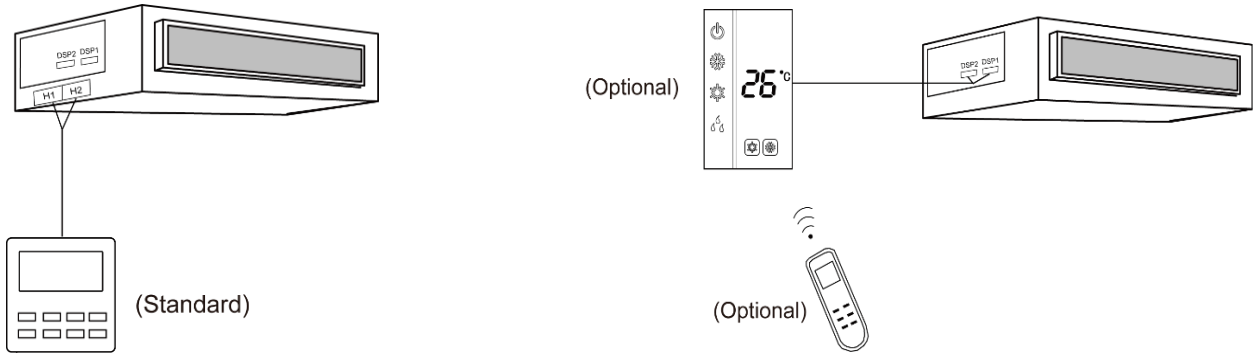

Fig30
6. Fig30 shows the installation of the wired controller.